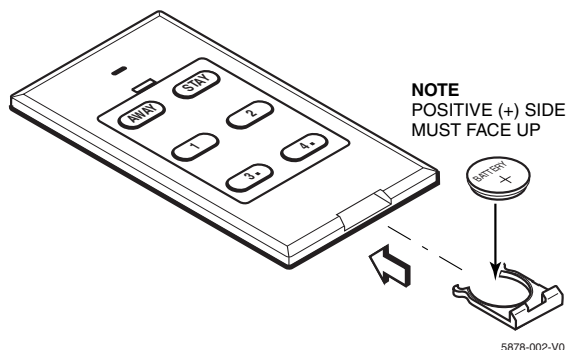

Figure 2 – Battery Replacement
4. Insert a new battery in the tray as shown in Figure 2. **Positive (+) end must face up.** Use Maxell CR2032, Duracell DL 20325, or Varta CR2032 lithium battery only.